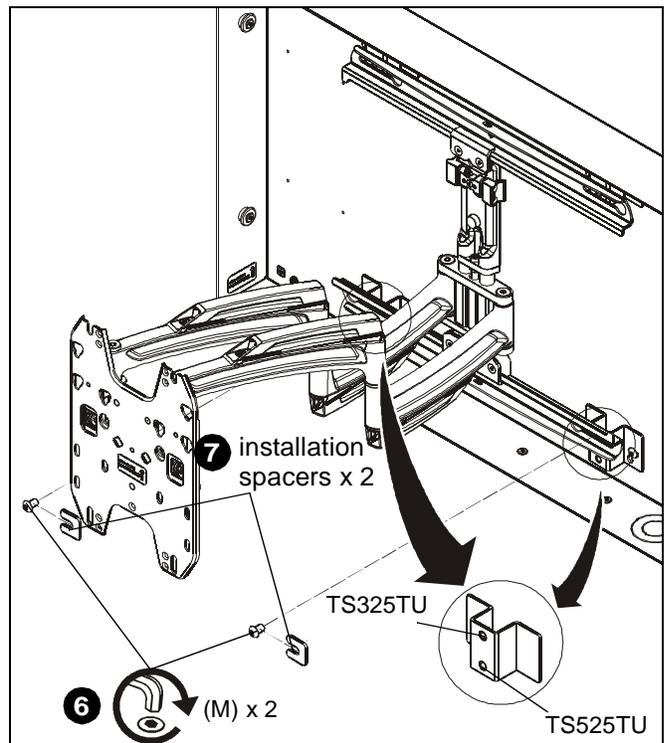
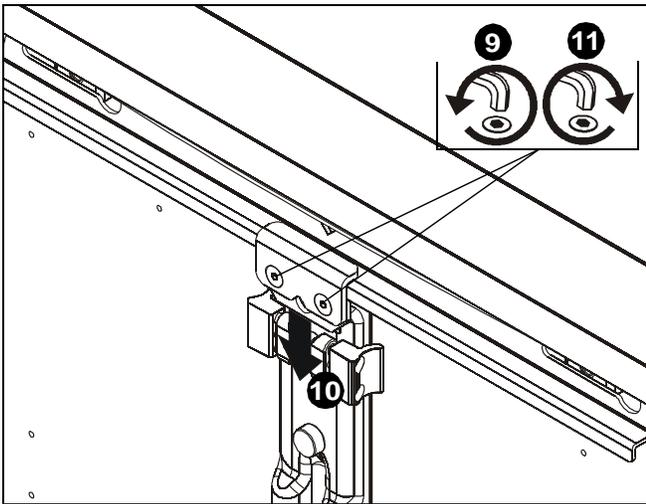

Figure 11
Figure 12
- Use two 5/16-18 x 1/2" button head cap screws (M) to loosely attach lower wall plate of TS325TU/TS525TU assembly to lower attachment brackets (N). (See Figure 11)
IMPORTANT ! : Install to lower bracket holes for TS525TU and upper bracket holes for TS325TU. See inset on Figure 11.
7. Place two installation spacers (included with TS325TU/TS525TU) over two 5/16-18 x 1/2" button head cap screws (M). (See Figure 11)
8. Tighten two screws (M) to secure lower wall plate to lower attachment brackets.
9. Loosen flat head cap screws on upper carriage rail in order to loosen white spacer. (See Figure 12)
10. Remove white spacer from mount. (See Figure 12)
11. Tighten flat head cap screws. (See Figure 12)